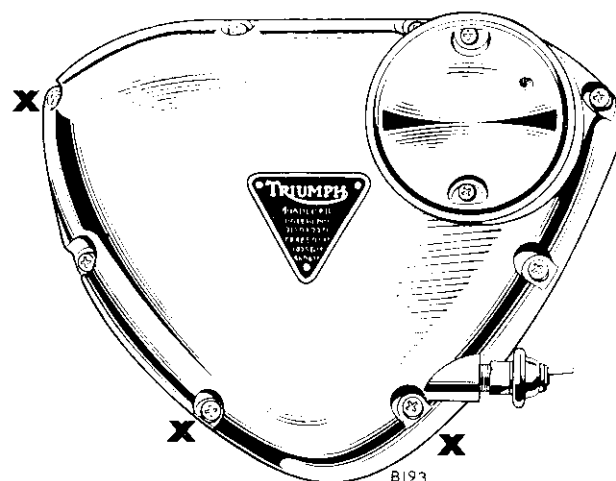

Fig. B28B Location of three long screws in timing cover
**NOTE:** The three longer screws should be fitted in the holes marked "X" in Fig. B28B